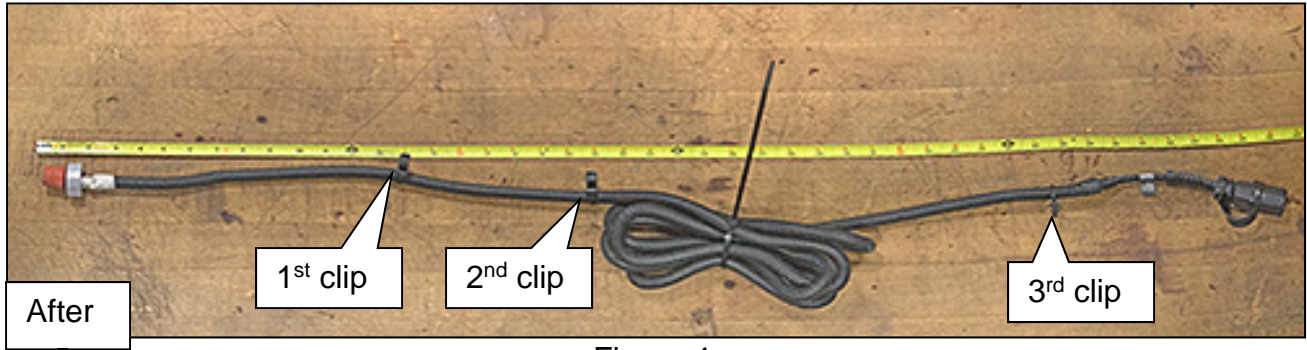

Figure 4
- d. Slide the three (3) remaining harness clips to the locations shown in Figures 4, 5, and 6.